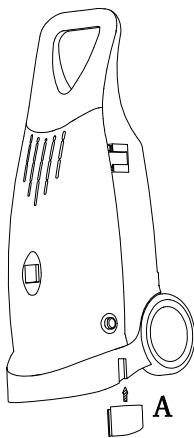

Fig. 1
8. Fit holder (A) as shown (press up) - fig 1.